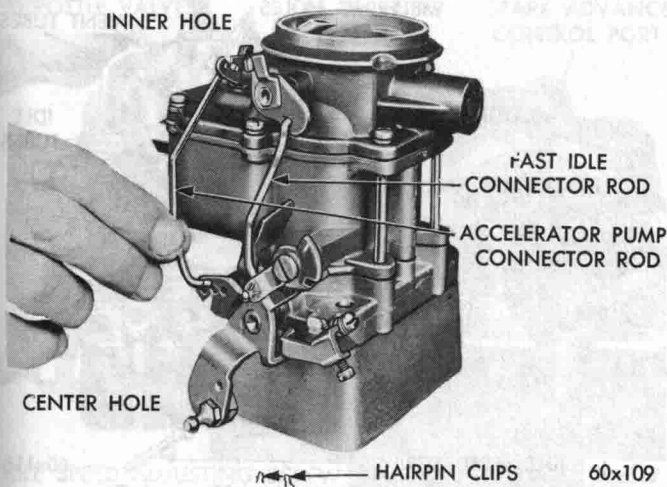

Fig. 2—Removing or Installing Accelerator Pump Rod
accelerator pump operating rod, as shown in Figure 2.
(21) Engage the accelerator pump operating rod in the outer hole in the rocker arm and in the center hole in the throttle lever. (Refer to Fig. 2). Install clips to secure.